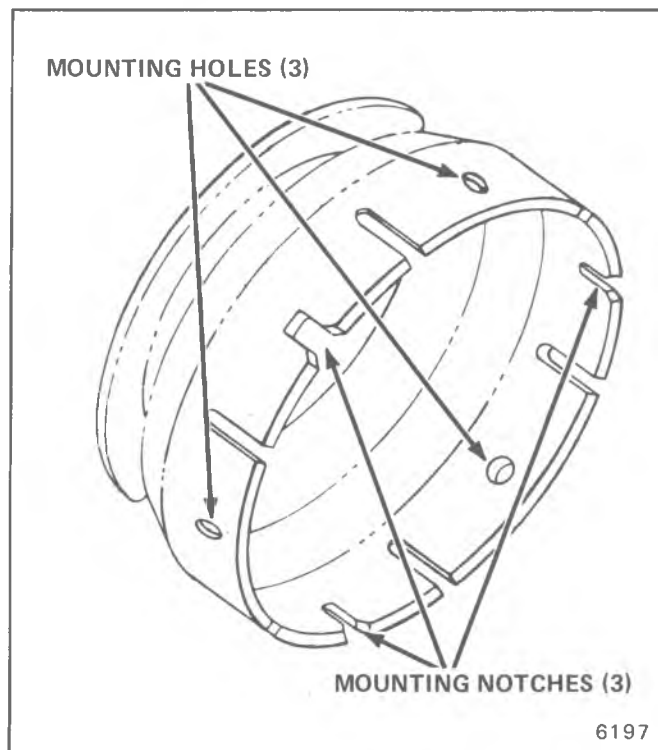

Fig. 1D-91 R-4 Pulley Rim Mounting Location Detail
8. Lock the three screws in place by flattening the special washer against two sides of the hex head screw using vise grip pliers and one portion of the lockwasher bent down over the edge of the inertia ring slot, Fig. 1D-92. **DO NOT** move the screw heads from the torqued position. Locking of the screws must be similar to the production forming of the lockwasher in order to effectively retain the screw.